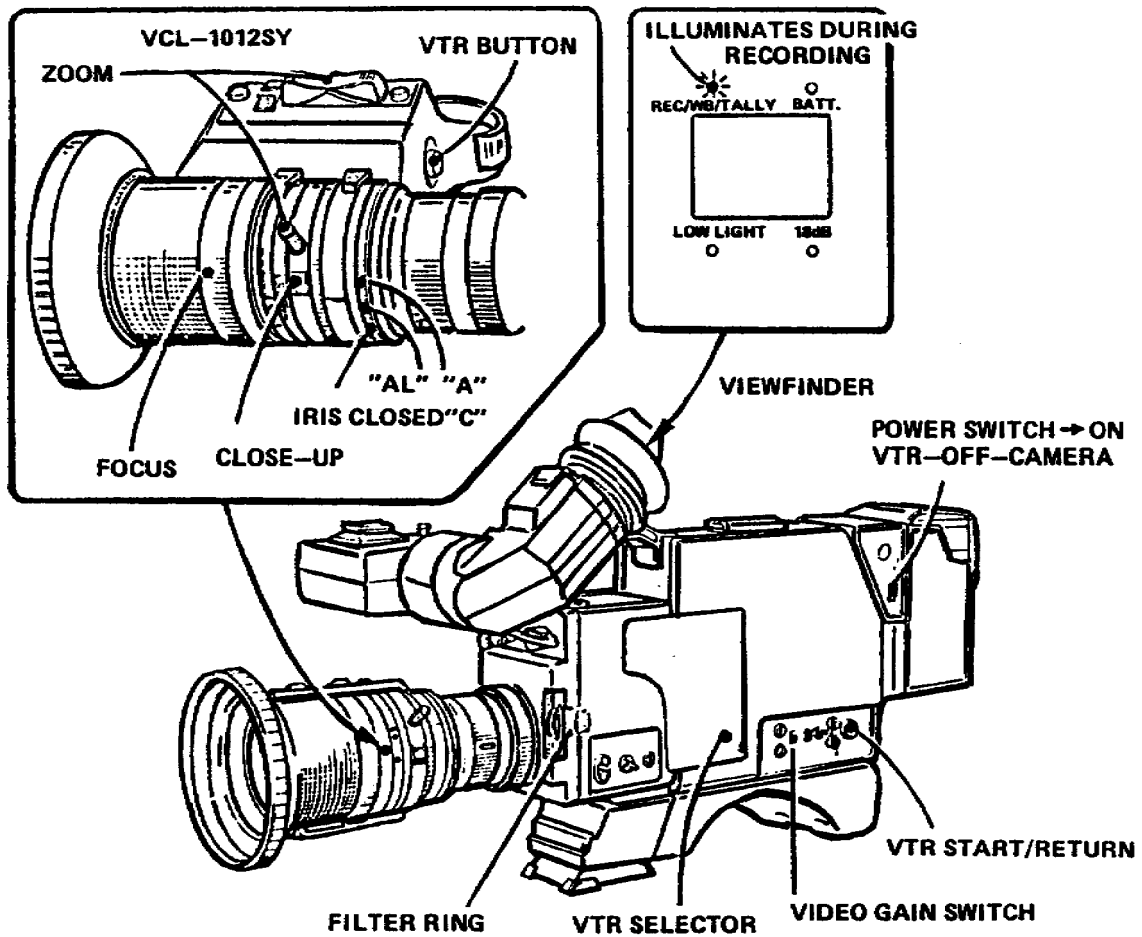

Figure 1-12. Portable video recorder
(1) Attach the camera and recorder together, using the camera cable, to the camera housing connectors, located on the camera and the recorder.
(2) The operator will then insert the battery into the recorder. At this time all power will come from the recorder.
(3) The operator will apply power to the recorder, pressing the POWER button, located on the front panel of the recorder.
(4) Power is then applied to the camera using the CAMERA POWER switch in the VR position. If the camera had a battery, the operator would use the CAMERA position on the CAMERA POWER switch.
(5) The operator would then press the EJECT button to insert the small video cassette, making sure the red button is in place in the bottom of the cassette, and gently press down on the recorder cassette housing cover.
(6) At this time, the operator will select on the FOCUS RING the INDOOR or OUTDOOR position in order to obtain a true white balance for the lighting conditions. Once selected, the operator would zoom in on a white object, making sure he is in focus, and then would press the SET button to white balance the camera. An indicator light will light up in the viewfinder to tell the operator that the camera is white balanced or more light is needed.
(7) After this operation, the camera is ready for use by the operator (fig 1-12).